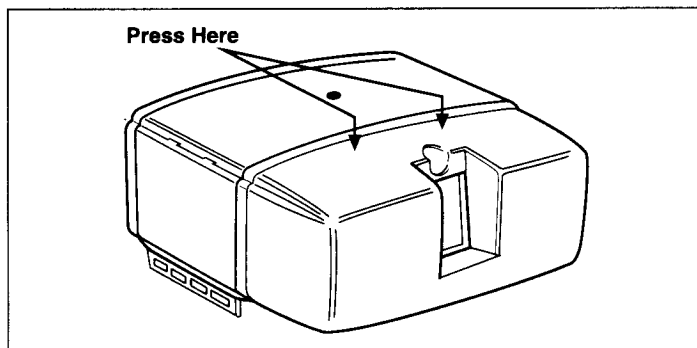

Figure 3
Step 5: Remove light lens by applying pressure and a slight pull at the two locations shown in Figure 3.